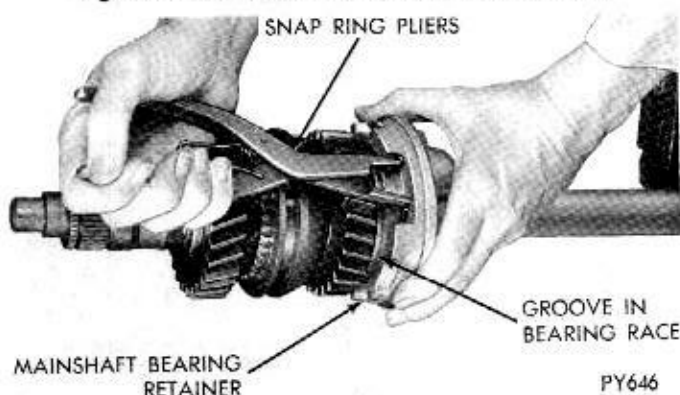

Fig. 17—Snap Ring Spread, to Remove or Install Retainer on Mainshaft Bearing
(20) Spread snap ring in mainshaft bearing retainer groove and slide it over the bearing. Be sure snap ring seats in bearing groove (Fig. 17).